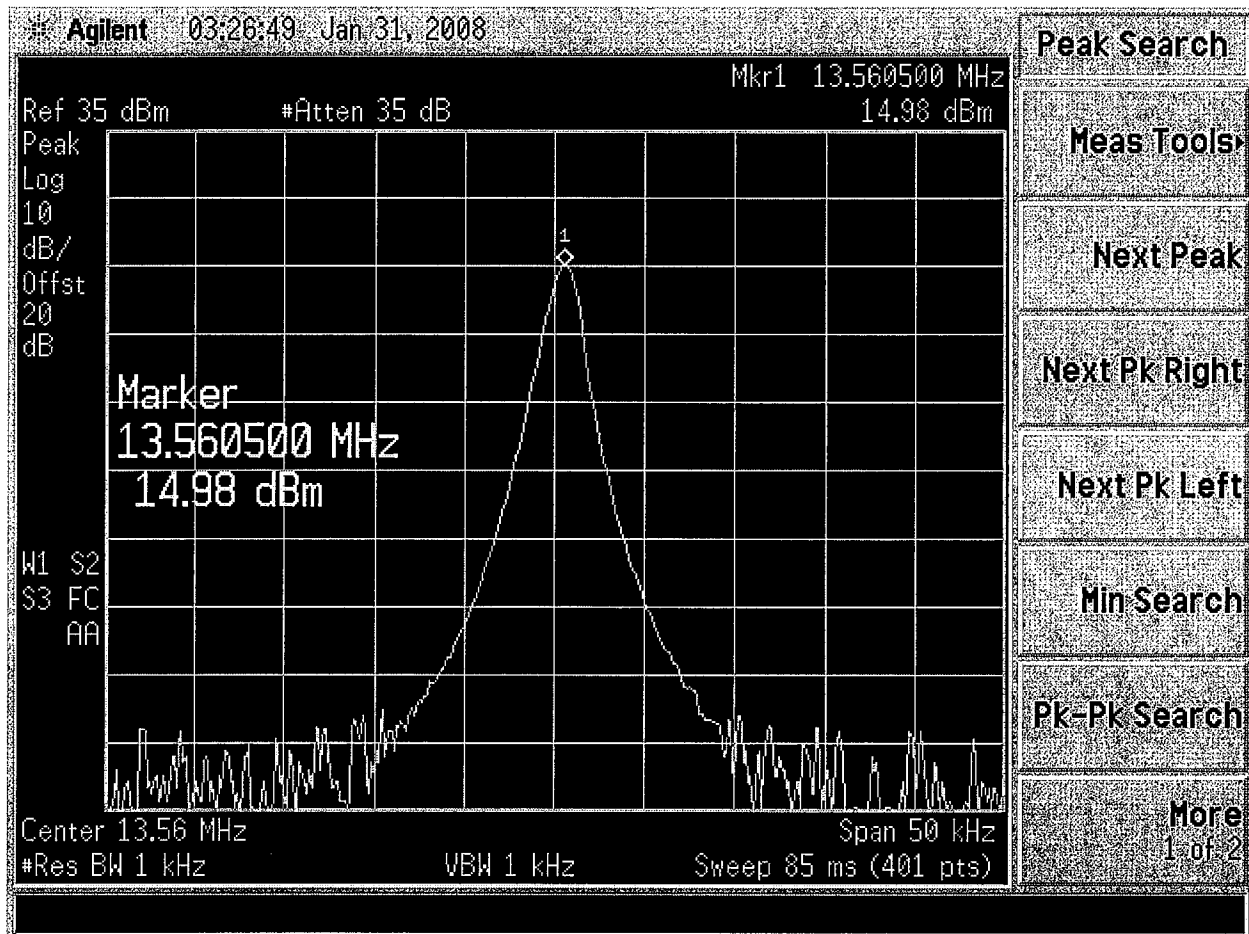

Figure 7
- 9.4.6 Verify that there is a signal present on the spectrum analyzer similar to the one show in Figure 7. **Amplitude should be within a +/- 2 dB at this point.**